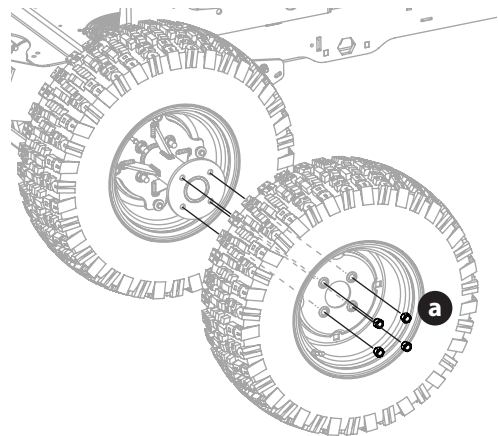

Figure 50
1. Remove the four outer lug nuts (a) to remove the outer wheel (Figure 50).